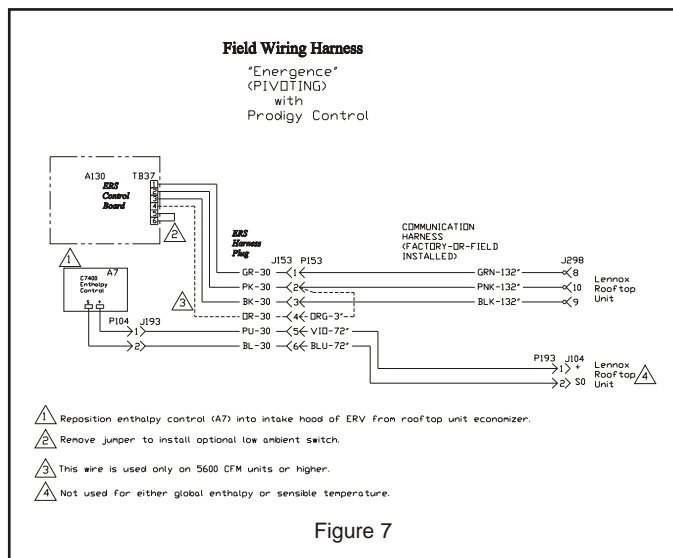

Figure 7
9. Plug field harness P27 into economizer plug J4. **See Figure 7 for field wiring.**